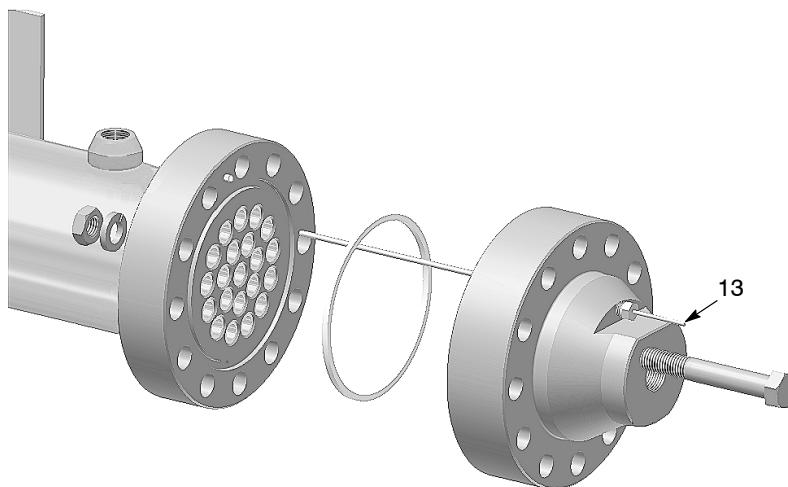

Figure 2 RTD Sensor Location (Previous Configuration)
2. See Figure 2. Unscrew and remove the old RTD sensor (13) from the heat exchanger. Discard old RTD assembly.